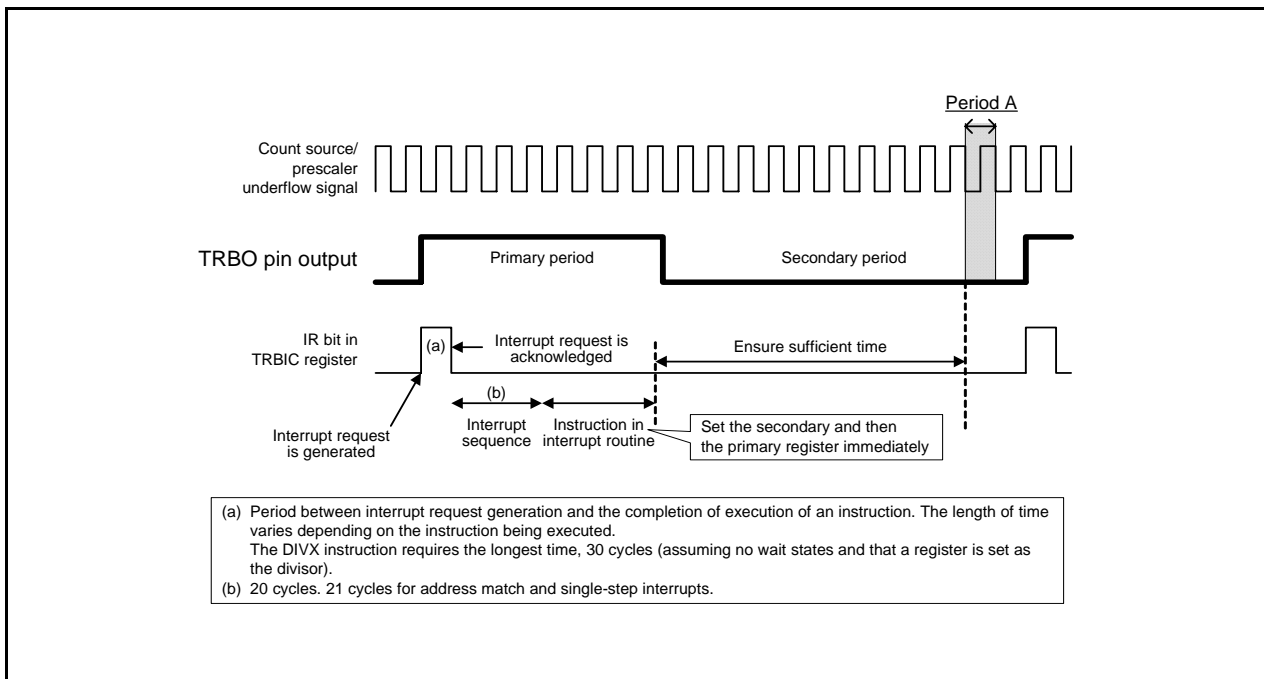

Figure 16.25 Workaround Example (a) When Timer RB interrupt is Used
- (1) To write to registers TRBPRE and TRBPR during count operation (TCSTF bit is set to 1), note the following points:
- (2) To change registers TRBPRE and TRBPR during count operation (TCSTF bit is set to 1), synchronize the TRBO output cycle using a timer RB interrupt, etc. This operation should be performed only once in the same output cycle. Also, make sure that writing to the TRBPR register does not occur during period A shown in Figures 16.25 and 16.26.
As shown in Figure 16.25, write to registers TRBSC and TRBPR in the timer RB interrupt routine. These write operations must be completed by the beginning of period A.